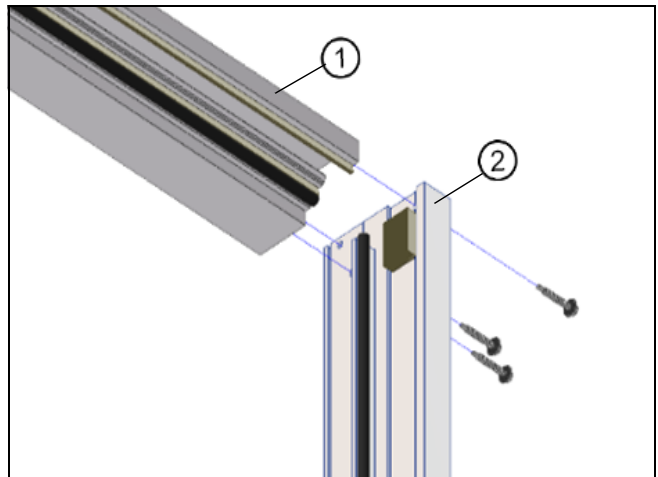

Figure 9
4. Align head jamb screw bosses to jamb assembly holes. Assemble using #12 x 1-1/2" Neo Washer Hex head screws. See Figure 9.